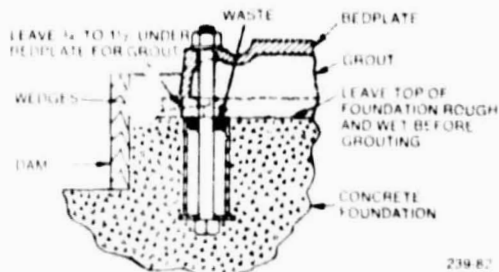

Figure 1
1. **Grouted**—Bedplate mounted units are normally grouted-in on a concrete foundation, which has been poured on a solid footing. This allows a permanent, vibration absorbing base for the unit. The location and size of foundation bolts are shown on the outline assembly drawings supplied for the unit. Fig. 1 illustrates a typical foundation bolt installation